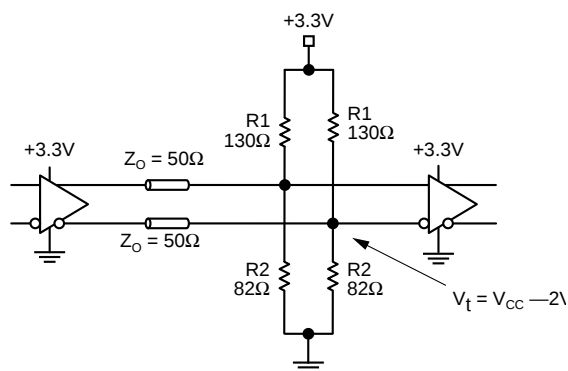

Figure 1. Parallel Termination-Thevenin Equivalent
**LVDS/LVPECL INPUTS****LVPECL Input Stage****LVDS Input Stage****Figure 1. Simplified LVPECL & LVDS Input Stage**